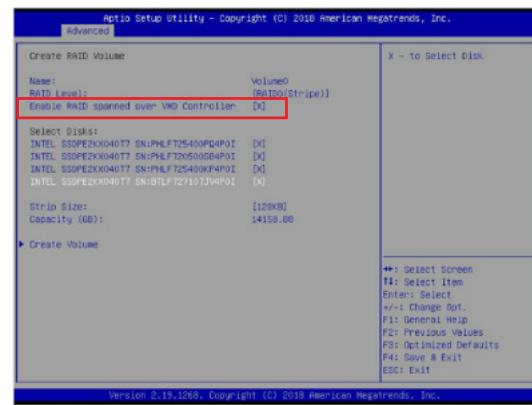

Figure F-4. Created Volume with enabling RAID spanned over VMD controller
8. Switch to **Advanced > Intel(R) Virtual RAID on CPU > All Intel VMD Controllers > Create RAID Volume.**
11. If cross-controller RAID is required, select **Enable RAID spanned over VMD Controller** as shown in Figure F-4.